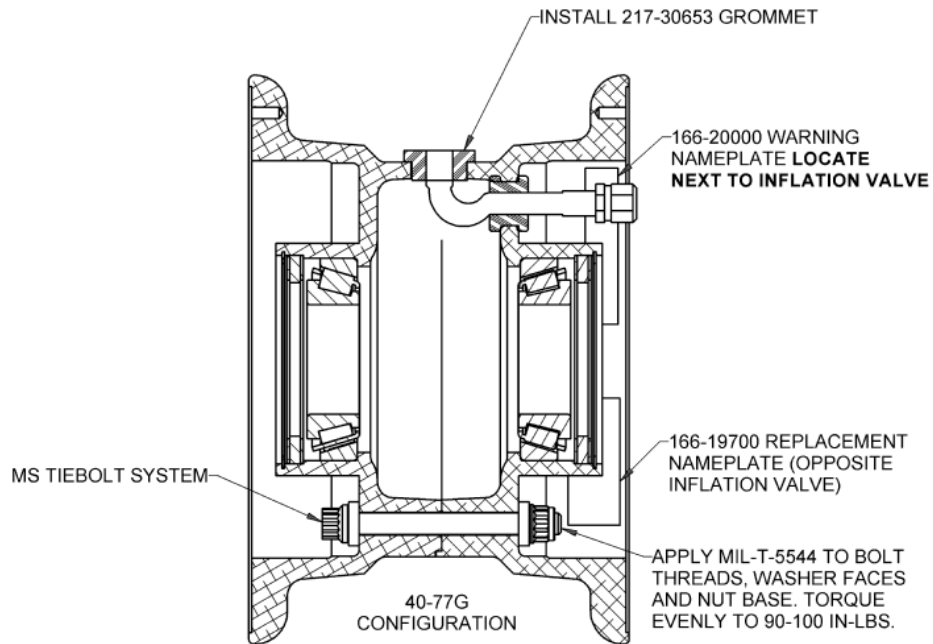

Figure 3
- 4) Apply anti-seize compound per AMS 2518 to bolt threads, washer faces, and nut base prior to assembly. Avoid getting anti-seize compound on wheel surfaces. Re-assemble the wheel-tire assembly with the hardware listed in SB7083-1 Upgrade Kit, (Table 1) IAW Parker AWBCMM0006 Component Maintenance Manual and as shown in Figure 3.
- 11) Apply P/N 166-20000 Warning Nameplate, adjacent to the inflation valve hole on clean outboard wheel half, see Figure 3.